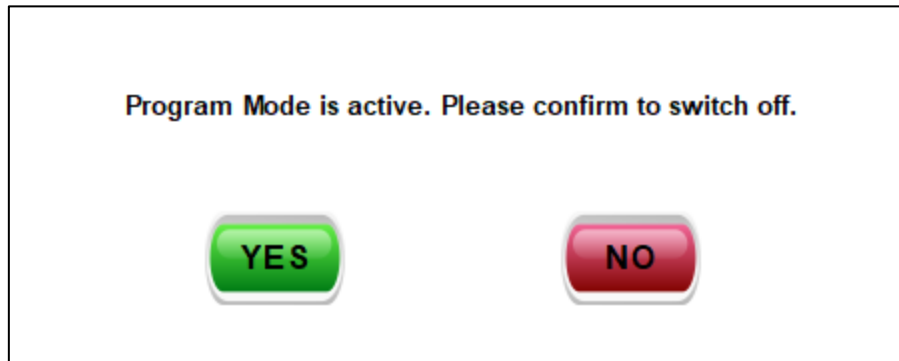

Figure 13
- Note, once Manual Control Mode has started, you can still go into the “Program Mode” to edit the programs. However, you will not be able to start a recipe under the “Program Mode” when Manual Control Mode is running. A warning message will come up if “Program Mode” is started while running in Manual Mode: “Manual Mode is still active. Please confirm switch off” (Figure 13).